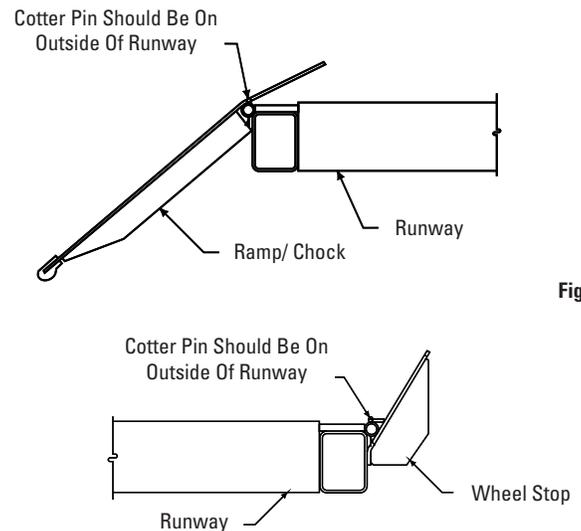

Fig. 33
**28. Assemble** ramp/chocks and wheel stops to runways using hinge pins and cotter pins. Ramp chocks go on rear and wheel stops go on front of runway, Fig. 33.